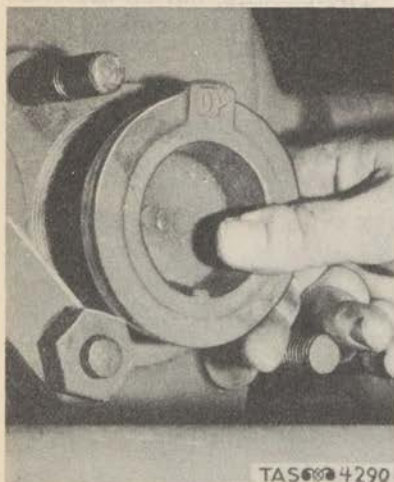

Figure 253. Removing Side Cylinder Head.
(6) Remove the three side cylinder heads (caps). (Fig. 253)
(Figs. 253 and 260)